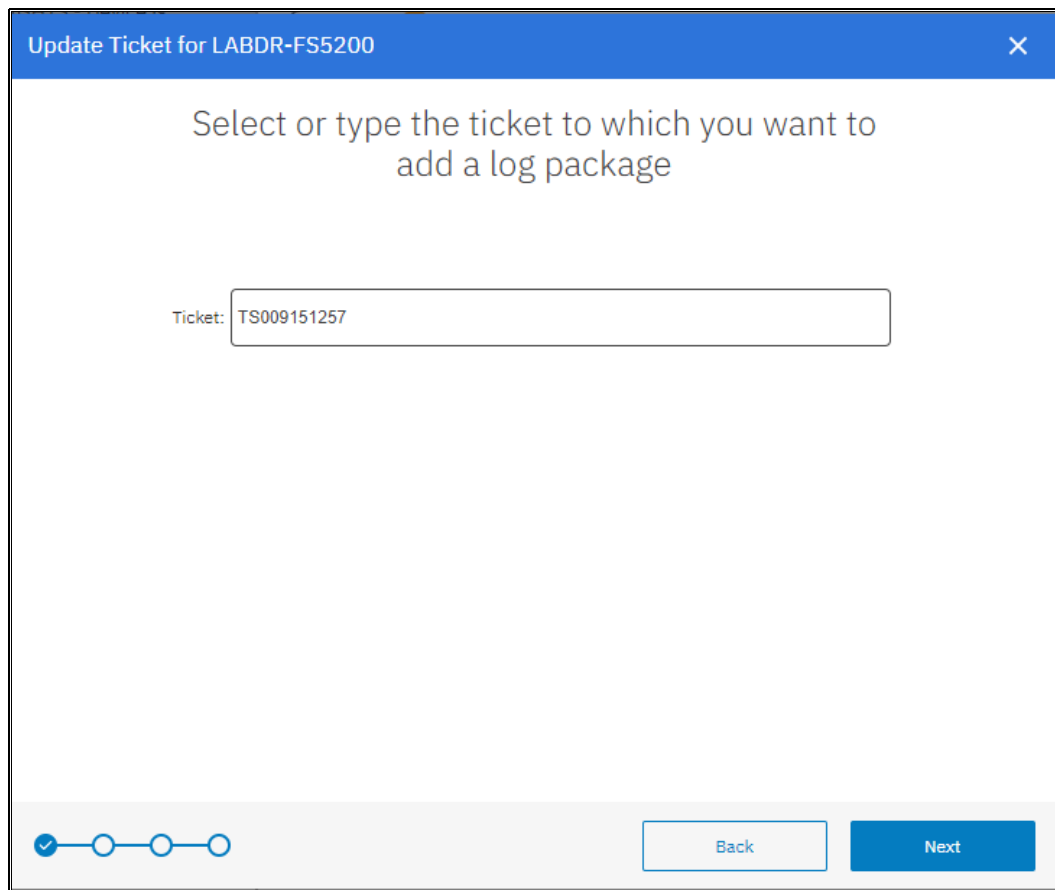

Figure 11-23 Entering the IBM Support or PMR case number
2. Enter the IBM Support case number, and then click **Next** (see Figure 11-23). The IBM Support case number uses the following format: